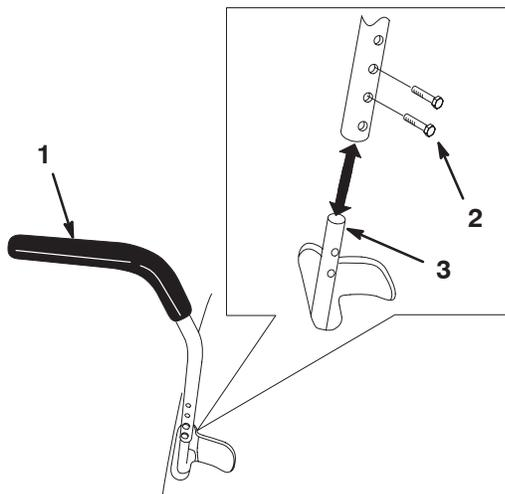

Figure 12
1. Remove the 2 bolts holding the control lever to the control arm shaft (Fig. 12).
2. Move the control lever to the next set of holes. Secure the lever with the 2 bolts (Fig. 12).